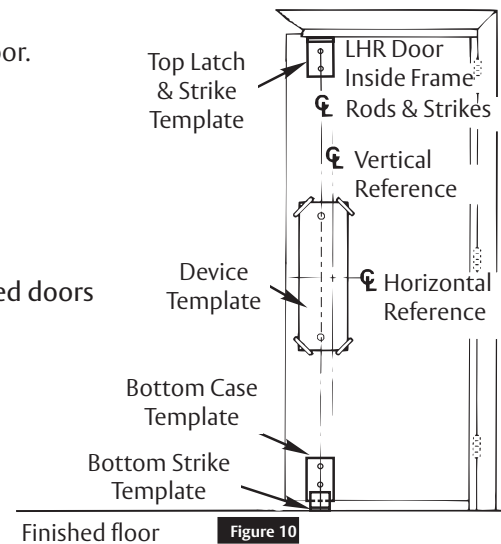

Figure 10
- Locate Device Template aligning VERTICAL REFERENCE and HORIZONTAL REFERENCE lines on door and template. Tape template to door face. (Figure 10)